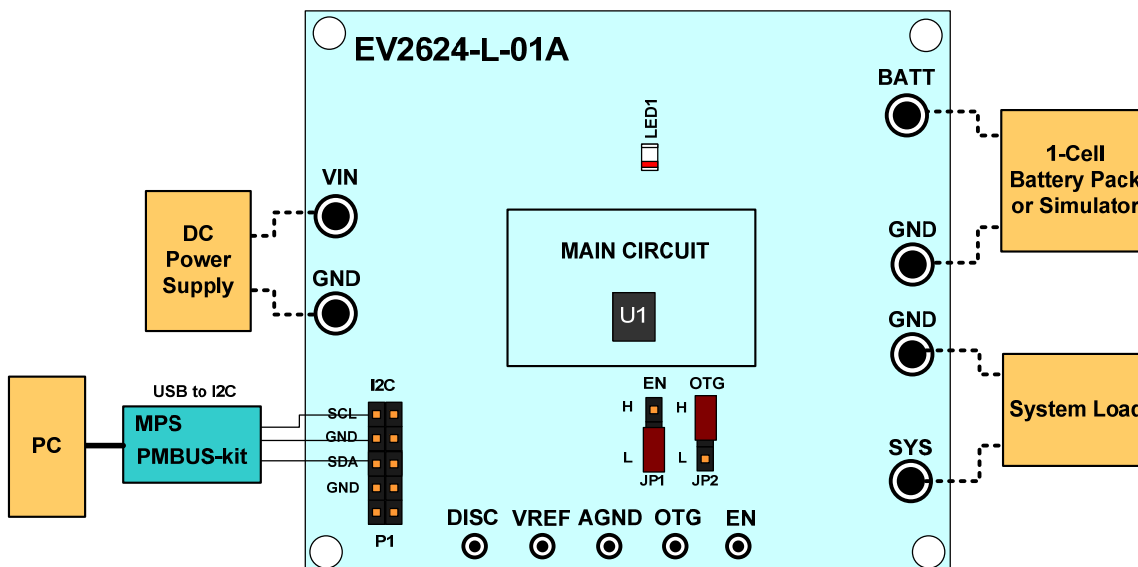

Figure 1: Test Setup for MP2624
4) Original Test Setup for MP2624 in Figure1